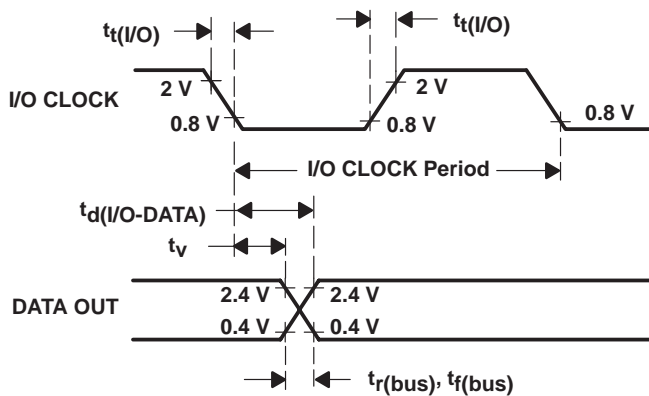

Figure 5. I/O CLOCK and DATA OUT Voltage Waveforms
| Transition time, I/O CLOCK, $t_t(I/O)$ (see Note 5 and Figure 5) | | 1 | | | μs |
| t_v | Valid time, DATA OUT remains valid after I/O CLOCK↓ | See Figure 5 | 10 | | ns |
| $t_{d(I/O-DATA)}$ | Delay time, I/O CLOCK↓ to DATA OUT valid | See Figure 5 | | 240 | ns |
| $t_{r(bus)}$ | Rise time, data bus | See Figure 5 | | 300 | ns |
| $t_{f(bus)}$ | Fall time, data bus | See Figure 5 | | 300 | ns |
9. I/O CLOCK period = 1/(I/O CLOCK frequency). Sampling begins on the falling edge of the third I/O CLOCK, continues for seven I/O CLOCK periods, and ends on the falling edge of the tenth I/O CLOCK (see Figure 5).